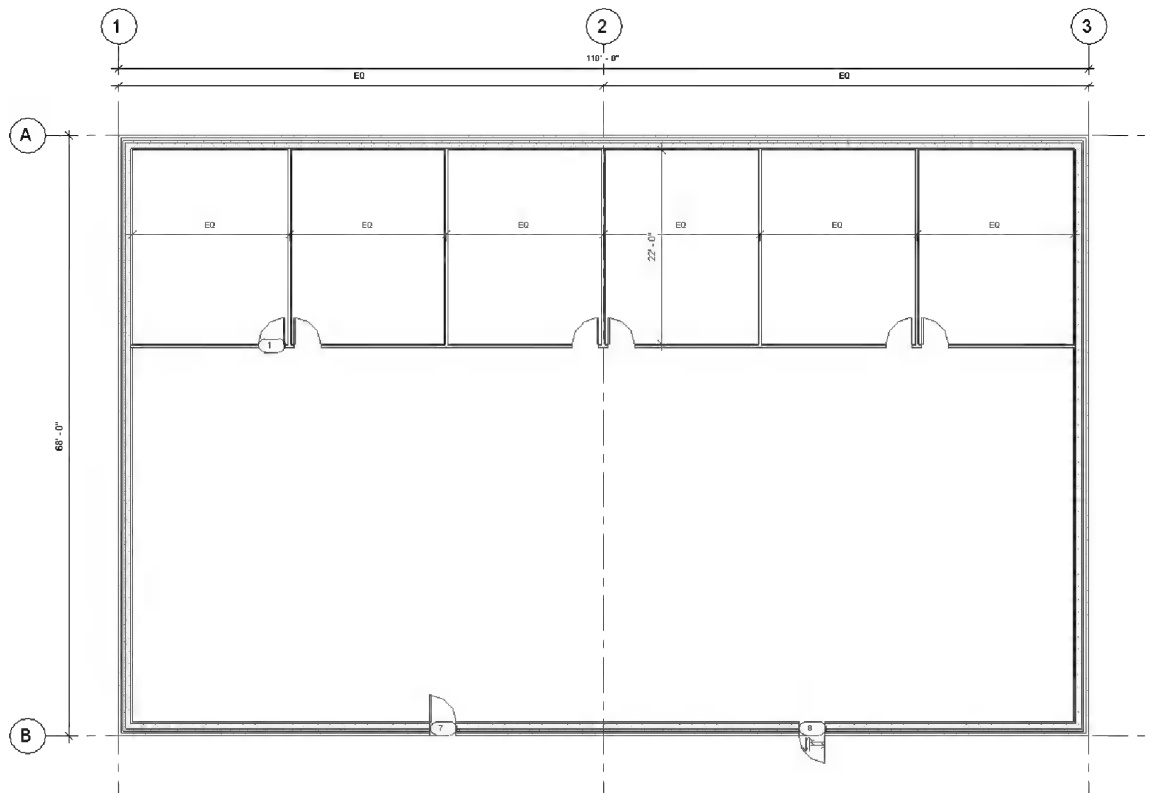

FIGURE 2-2.10 Adding exterior doors
19. Using the **Door** tool, add two exterior doors approximately located per Figure 2-2.10. Match the swing and hand shown.